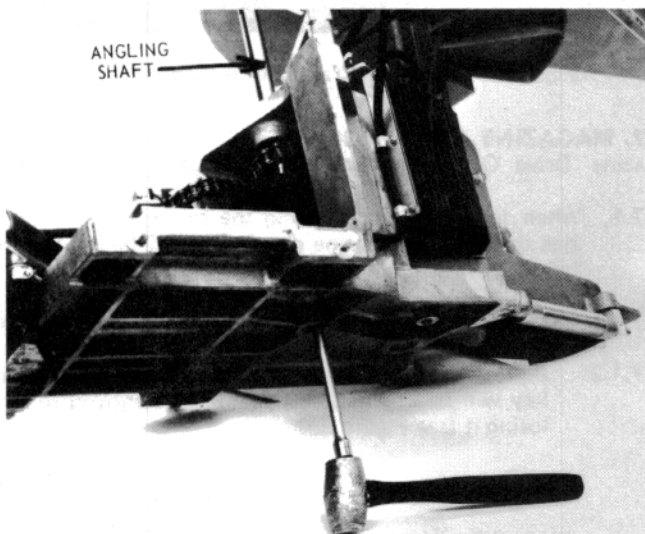
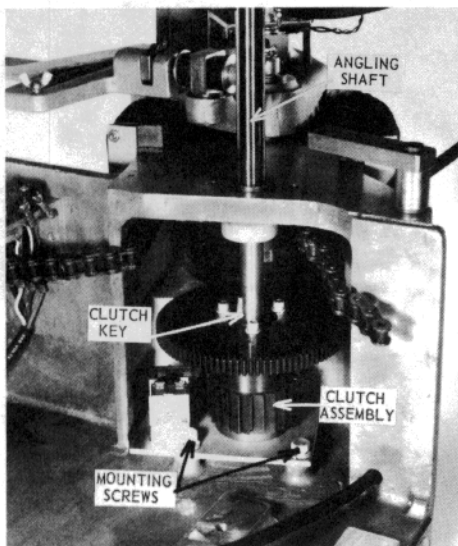

Figure 78 — Driving Out Angling Shaft
Figure 79 — Angling Clutch Assembly, Key, and Mounting Screws and Angling Shaft
- 6.1.14 The angling shaft can be pulled from the top of the trap if the platform is tilted for clearance. If the shaft still cannot be removed it will be necessary to turn the trap over and drive the shaft out from underneath (see Figure 78) using a brass rod. Be careful not to lose the angling clutch key which fits into the lower end of the angling shaft (see Figure 79).
- 6.1.15 Remove the angling clutch assembly by unbolting the angling clutch mounting screws (refer to Figure 79).
- 6.1.17 Reassemble by installing the angling clutch and fastening it in place with the two angling clutch mounting screws (see Figure 79). Do not tighten mounting screws until shaft is in proper place.
- 6.1.19 Reinstall the angling drive shaft being certain the angling clutch key is correctly reinstalled (see Figure 79).